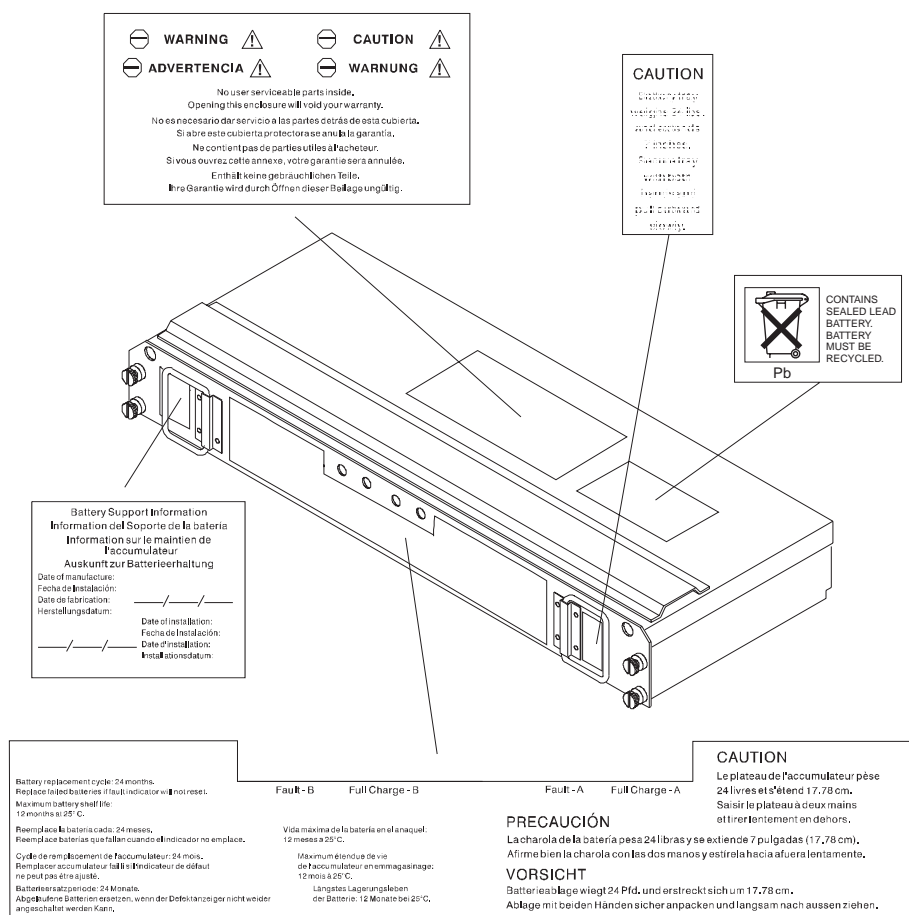

Figure 31. Battery CRU service labels
2. Check the “Installation Date” on the Battery Support Information label (see Figure 31 on page 49).